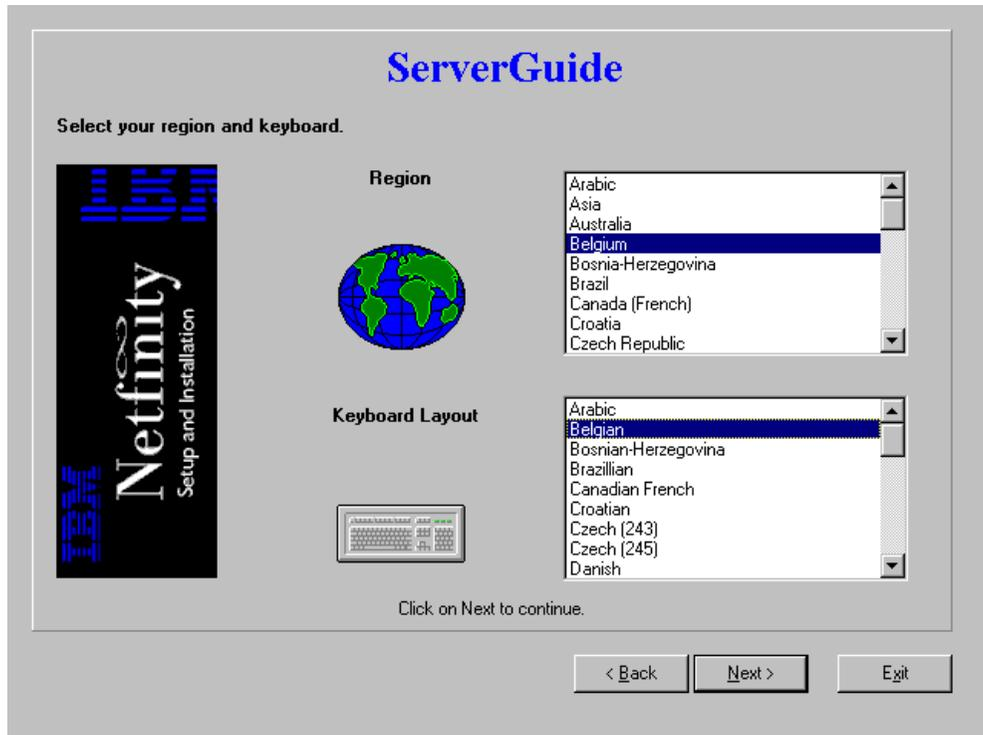
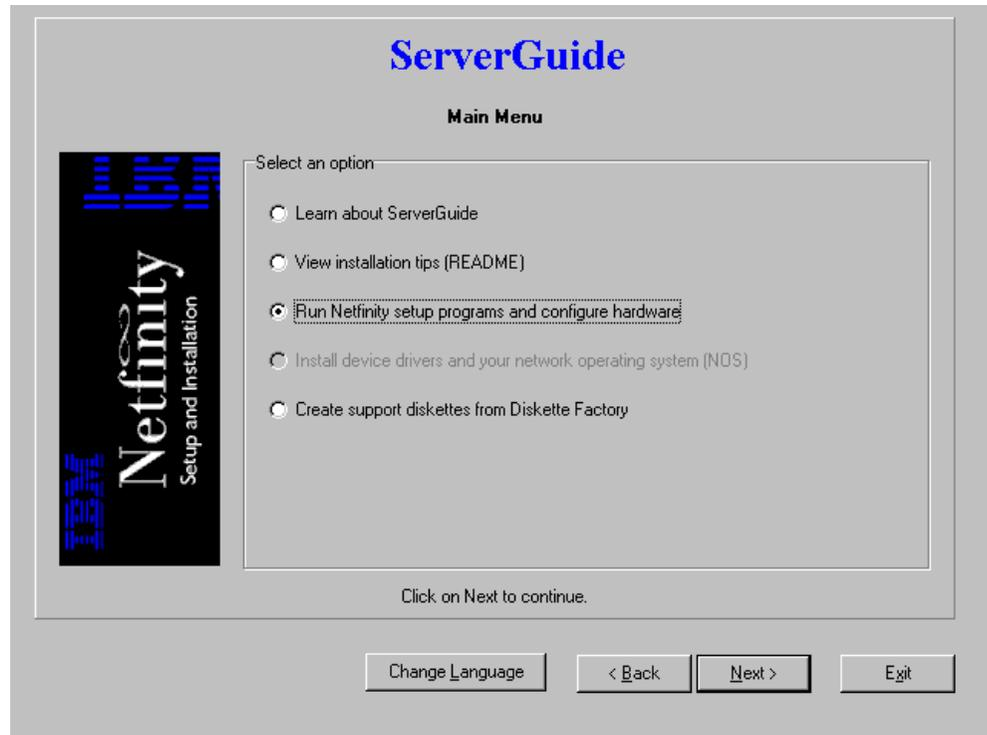

Figure 31. Region and keyboard selection window
Figure 32. The main menu
- b. ServerGuide remembers the region and language selections you used last time you ran ServerGuide. If you have used ServerGuide before on the same machine, the language selection window and the Region and Keyboard Layout Selection window will be skipped. If ServerGuide starts up with the Region and Keyboard Selection window (Figure 31 on page 54) click **Back** to select the language. If ServerGuide starts up with the main menu window (Figure 32 on page 55), click **Change Language** to return to the language selection window.
4. You will see the main menu, Figure 32.
8. Select **Run Netfinity setup programs and configure hardware** from the main menu (Figure 32 on page 55) and click **Next** to continue the installation.